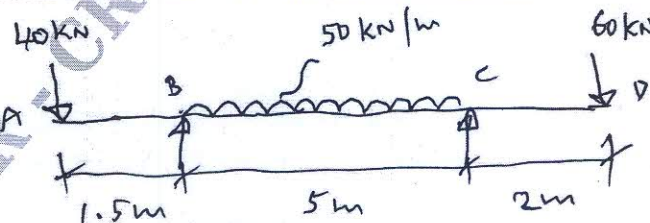

Fig.Q6(c)
- c. Draw SFD and BMD for the beam shown in Fig.Q6(c). Indicate the maximum bending moment and its location. Also indicate Point of Contraflexure.